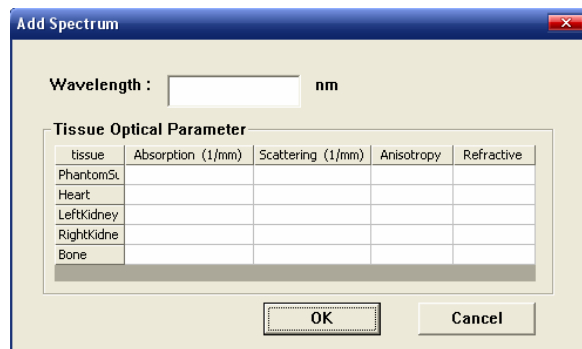

Figure 6-1. Dialog box for adding spectrum band
b. Click the button **Add Spectrum**, we can add new spectrum band as Figure 6-1 indicates. Also the optical parameter of all the tissues in the new spectrum band could be set in this dialog box. The information of the light sources in this spectrum band could be set in 'Light Source' Parameter Page.